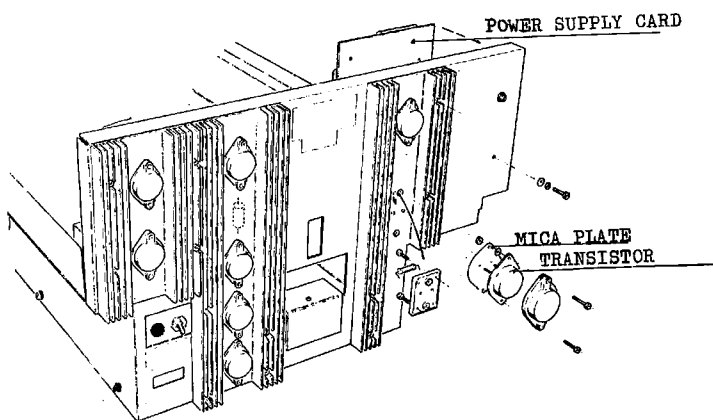

Fig.7-34 POWER SUPPLY
5.11 POWER SUPPLY CARD (fig 7-34)
5.12 POWER TRANSISTORS (fig 7-34)